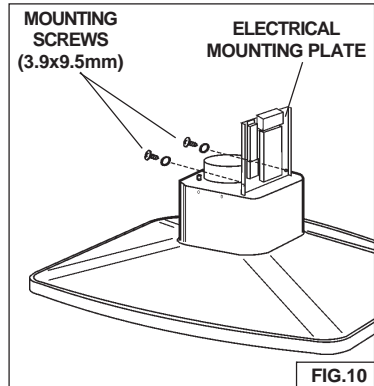

FIG.10
1. Assemble the Electrical Mounting Plate to the hood with (2) 3.9x9.5mm mounting screws and (2) serrated washers. Fig. 10.